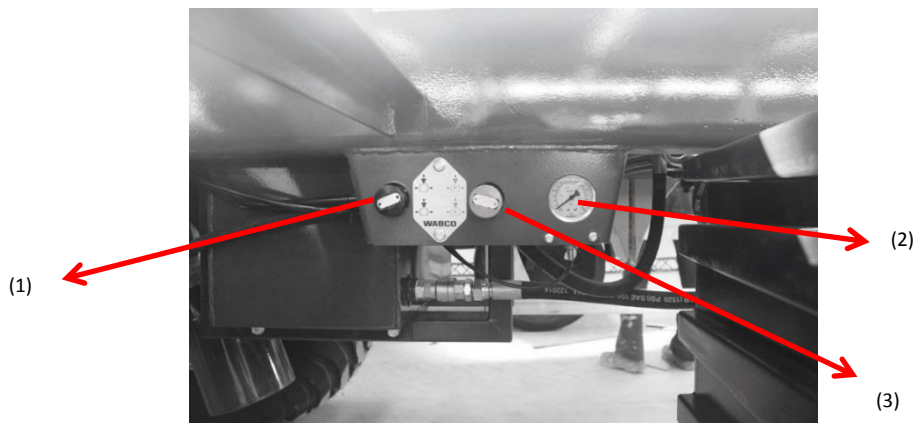

Figure 10: Parking brake housing.
Cut-off valve (3) – Figure 10 limits the tipping angle of the load box when tipped to the sides and to the rear. The length of the control cable (6) controlling this valve is factory adjusted by the Manufacturer and must not be changed when the trailer is used.